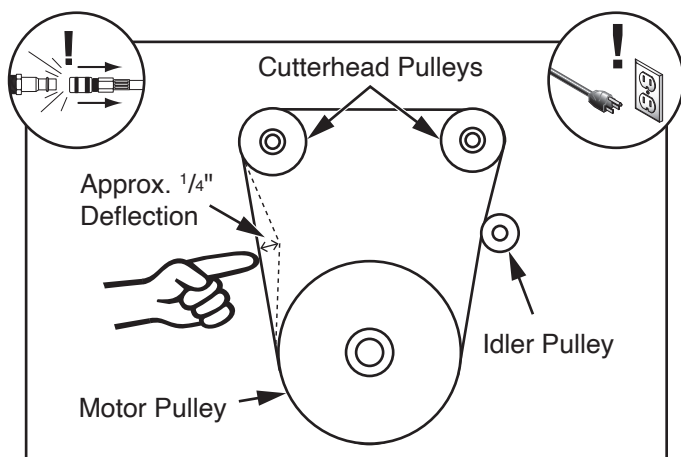

Figure 87. Pre-mill belt deflection.
3. Press middle of pre-mill drive belt with moderate pressure. Proper tension is achieved when deflection is approximately $\frac{1}{4}$ " as illustrated in **Figure 87**.
2. Route new belt around pulleys (see **Figure 87**), then follow **Steps 5–6** of **Tensioning Drive Belt**.